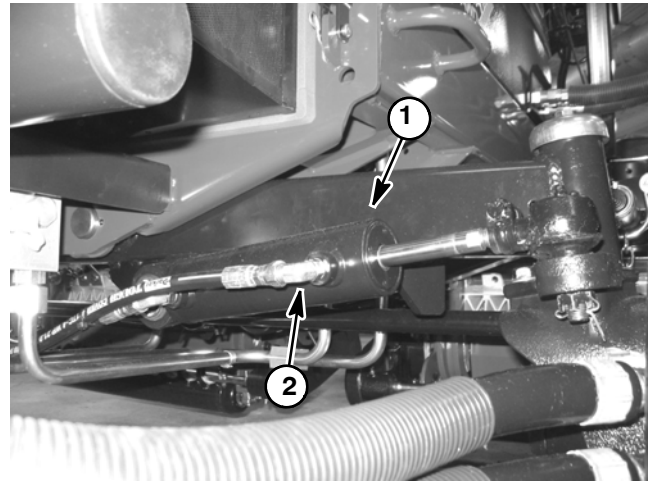

Figure 55
5. Thoroughly clean the area around the hydraulic hose at the rod end of the steering cylinder (Fig. 55).